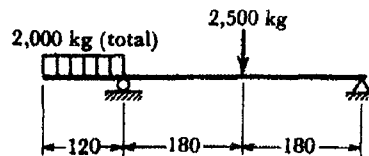

Fig.5 (a)
- 5(a) Construct the complete shear force and bending moment diagram for the beam shown in Fig.5 (a). Also determine the maximum bending moment and the point of contra-flexure.
- (b) For a rectangular element shown in Fig. 5(b), the following numerical data are given  $\sigma_x = 100 \text{ kg/cm}^2$ ,  $\sigma_y = 75 \text{ kg/cm}^2$  and  $\tau_{xy} = 50 \text{ kg/cm}^2$ . Determine